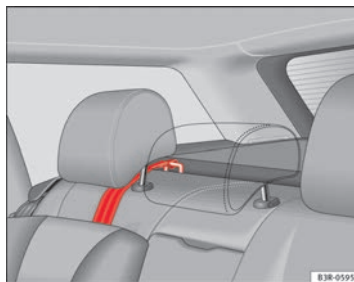

Fig. 36 Retainer strap: correct adjustment and fitting
- Guide the Top Tether fastening belt under the rear seat head restraint → Fig. 36 (lift the head restraint where necessary).